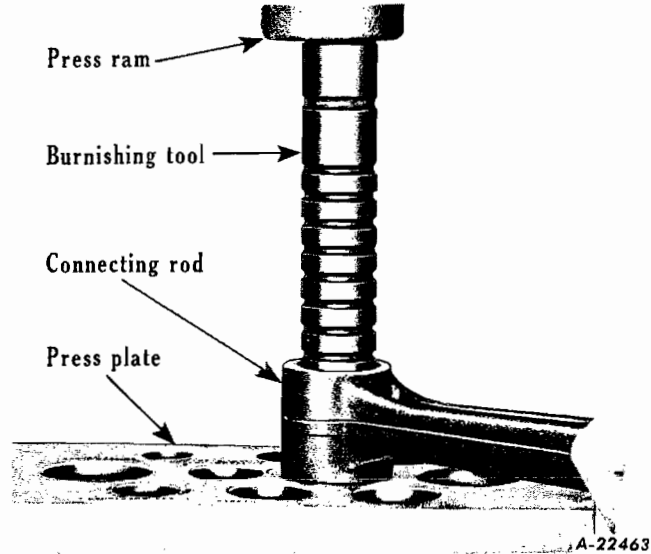
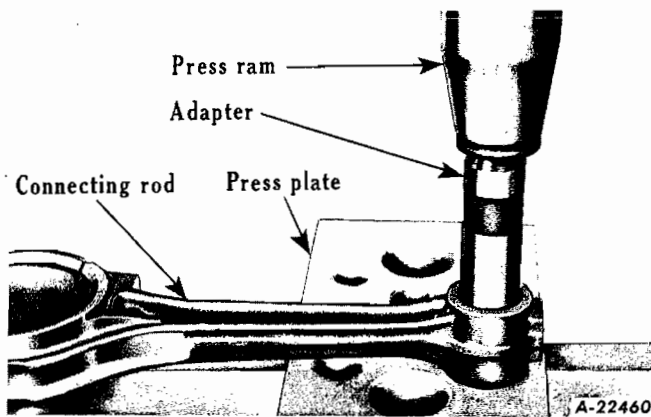
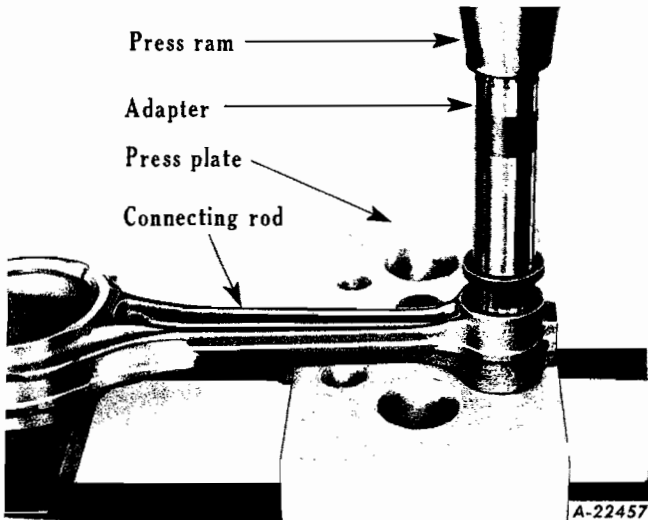

Fig. 37 - Burnish Bushing using SE-789.
Fig. 35 - Use SE-1036-6 to remove bushing. Select proper hole in SE-1033 Support Plate.
Fig. 36 - Installing new bushing in rod.
7. With properly fitting adapter (Fig. 35), press old piston-pin bushing from connecting rod. Place new piston-pin bushing in position, align oil hole in bushing with oil hole in connecting rod, (Fig. 36), install bushing with a .0035" to .0055" press fit. Burnish bushing into place in the connecting rod (Fig. 37), then ream pin bushing to provide a hand-push fit.
(Fig. 35). Apply a tension pull on scale to the feeler ribbon and check clearance to specifications as outlined in the chart below.
1. With piston heated to approximately 200° F., support connecting rod in vise, push piston pin into piston bosses while piston is hot (Fig. 36). When assembling piston on rod, the slot in the piston skirt must be toward the camshaft side of the engine, which is the numbered side of the connecting rod. Install piston pin retainer in piston at each